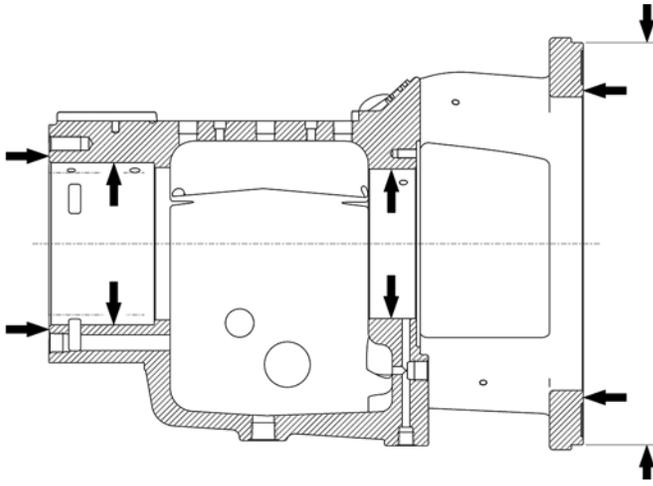

Figure 66: Surface inspection locations
13i	Press the radial bearing isolator (123) into the bearing frame and make sure that the expulsion part is at the 6 o'clock position and is properly seated. See Figure 66.